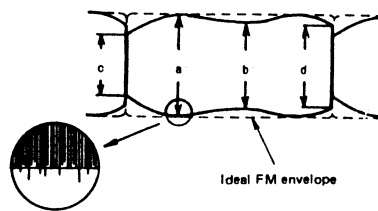

Fig. 2-38 FM waveform (max. output)
4. Observing the oscilloscope, adjust the flat portion of the maximum output level ('a' in Fig. 2-38) becomes 4 scale divisions. In this condition, next confirm that the level 'b' is more than 3.4 scale divisions (-1.5 dB) in comparison to the level 'a'. At the above measurement, each level should be read at a portion where serrations are comparatively flat.